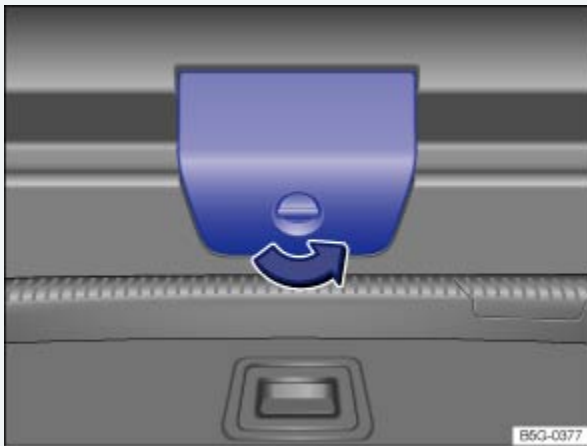

Fig. 212 Inside the luggage compartment: Cover for the trunk lid release.
- Open the cover ⇒ *Fig. 212* by turning the release in the direction of the arrow.